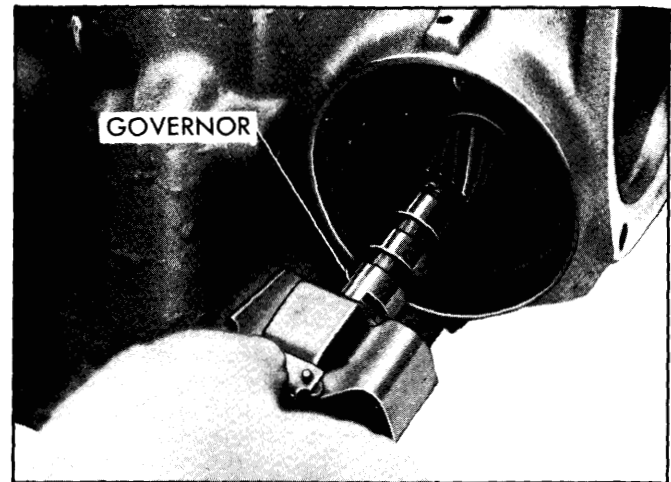

Fig. 7-15—Removing Governor from Case
8. Withdraw governor assembly from case (Fig. 7-15) and check governor bore and governor sleeve for scoring.